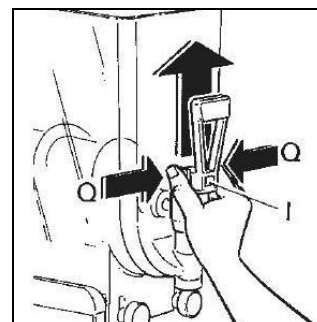

Fig. 3
- **S**imultaneously apply pressure to the two securing tabs (Q), and lift the dispensing tap (I) to pull it out of its fixed position (see figure 3).